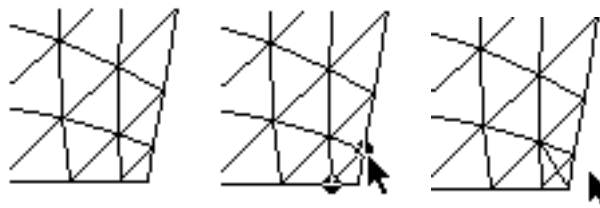

Fig 3.37 Before, during, and after add nodes
- Click on two nodes of any element (Fig 3.37), and then